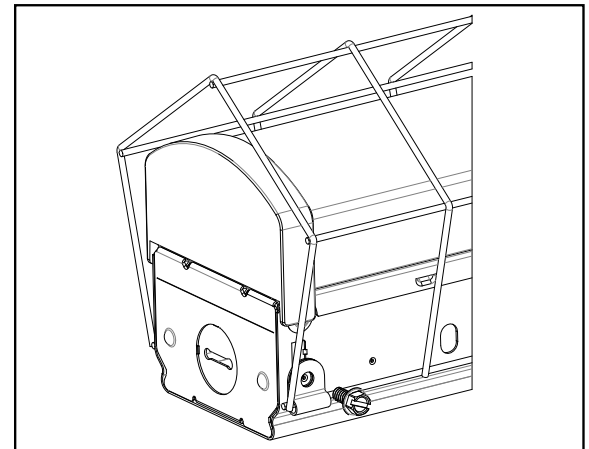

Figure 2.
3. Put wire guard up to fixture and align the clips to the dimples on the channel, then drive the included self-drilling screws into the dimples on the channel to secure wire-guard (Figure 2)